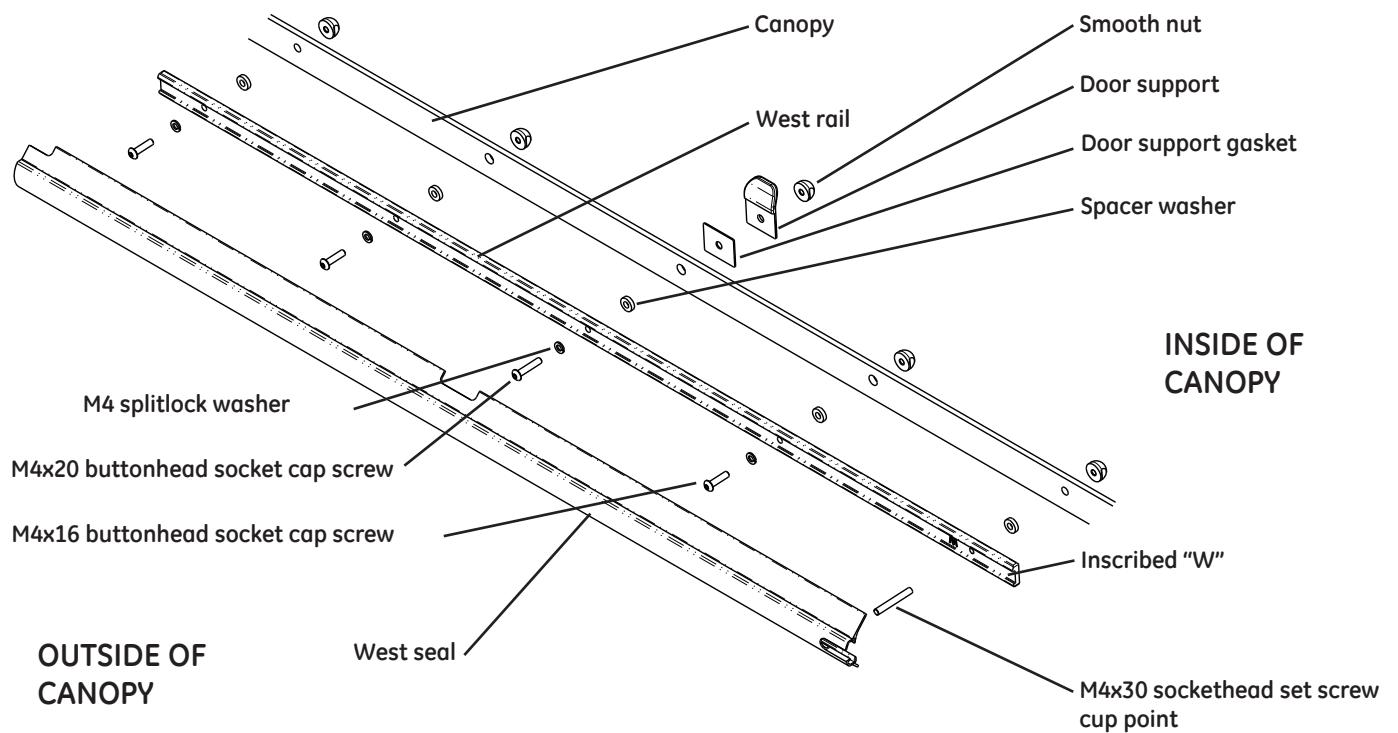
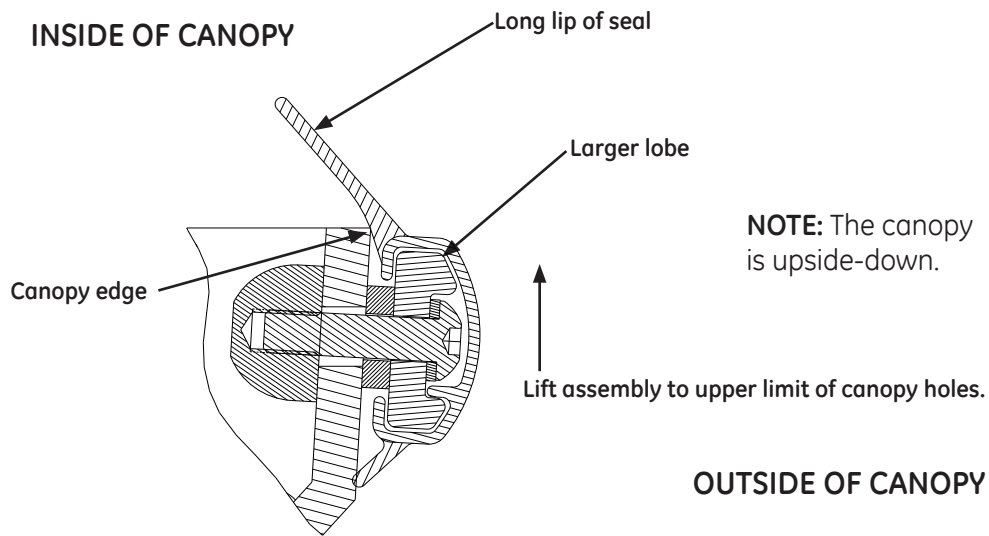

Figure 5-10 West Side Seal Parts
Figure 5-12 Seal Cross-section
- a. Install the east and west seal guide rails with smooth nuts, spacer washers, lock washers, and screws from kit, as shown in Figure 5-10. The larger lobe of each rail should be closest to the edge of the canopy, as shown in Figure 5-12. (This indicates which way is up on each seal.) The rails have "E" and "W" inscribed for east and west. These letters go toward the heater door cutout end of the canopy.
- c. Thread the set screw into the threaded hole in the guide rail near the “E” or “W” inscription. Refer to Figure 5-10. The socket of the set screw should be on the outside of the canopy.
- d. At the middle position of the long canopy sides, install the longer screw, lockwasher, spacer washer, gasket, door support, and smooth nut, as shown in Figure 5-10.
- e. Slide the seals on both sides, for alignment purposes. Lift the seal assembly to the upper limit of the canopy holes. Refer to Figure 5-12.